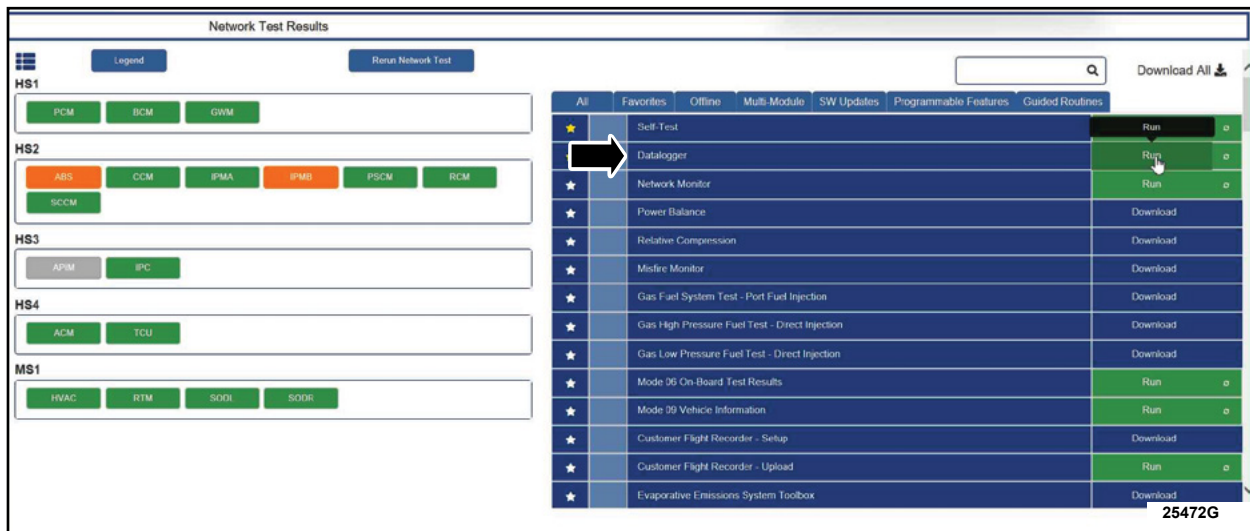

FIGURE 7
16. On the RH side of the screen, locate datalogger and click **RUN** to open a new tab. See Figure 7.